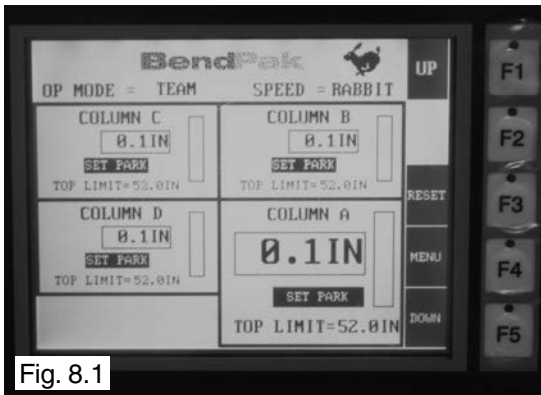

Fig. 8.1
1. Make sure the power unit reservoirs are full with four (4) gallons of 10-WT hydraulic oil or Dexron-III automatic transmission fluid each.
4. After the start-up screen, the home screen should be displayed (See Fig 8.1)